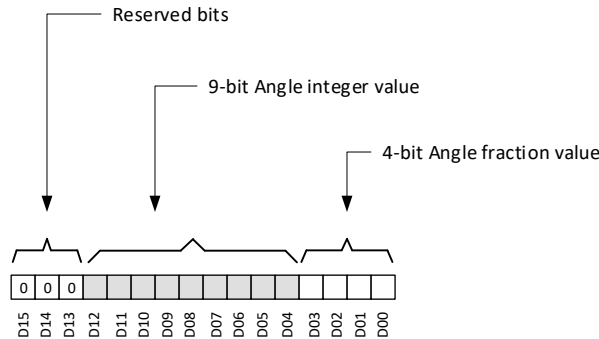

图 7-17. Angle Data Definition
The TMAG5273 calculates the angle from a pair of magnetic axes based off the ANGLE_EN register bits setting. 图 7-17 shows the angle information stored in the ANGLE_RESULT_MSB and ANGLE_RESULT_LSB registers. Bits D04-D12 store angle integer value from 0 to 360 degree. Bits D00-D03 store fractional angle value. The 3-MSB bits are always populated as b000. The angle can be calculated using 方程式 14.
- D_i is the data bit as shown in 图 7-17.